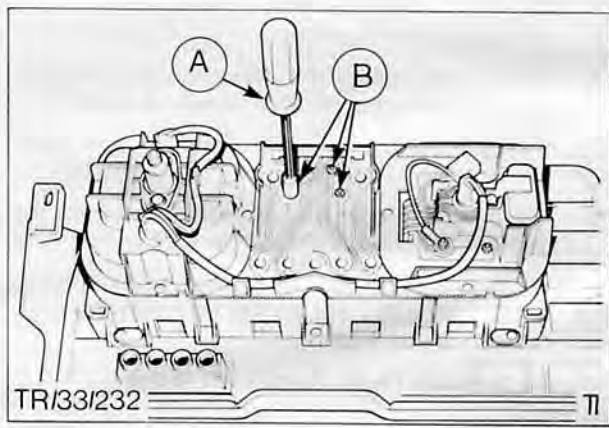

Fig. 56. Removing clock retaining nuts
3. Unscrew three clock retaining nuts and washers, Fig. 56.